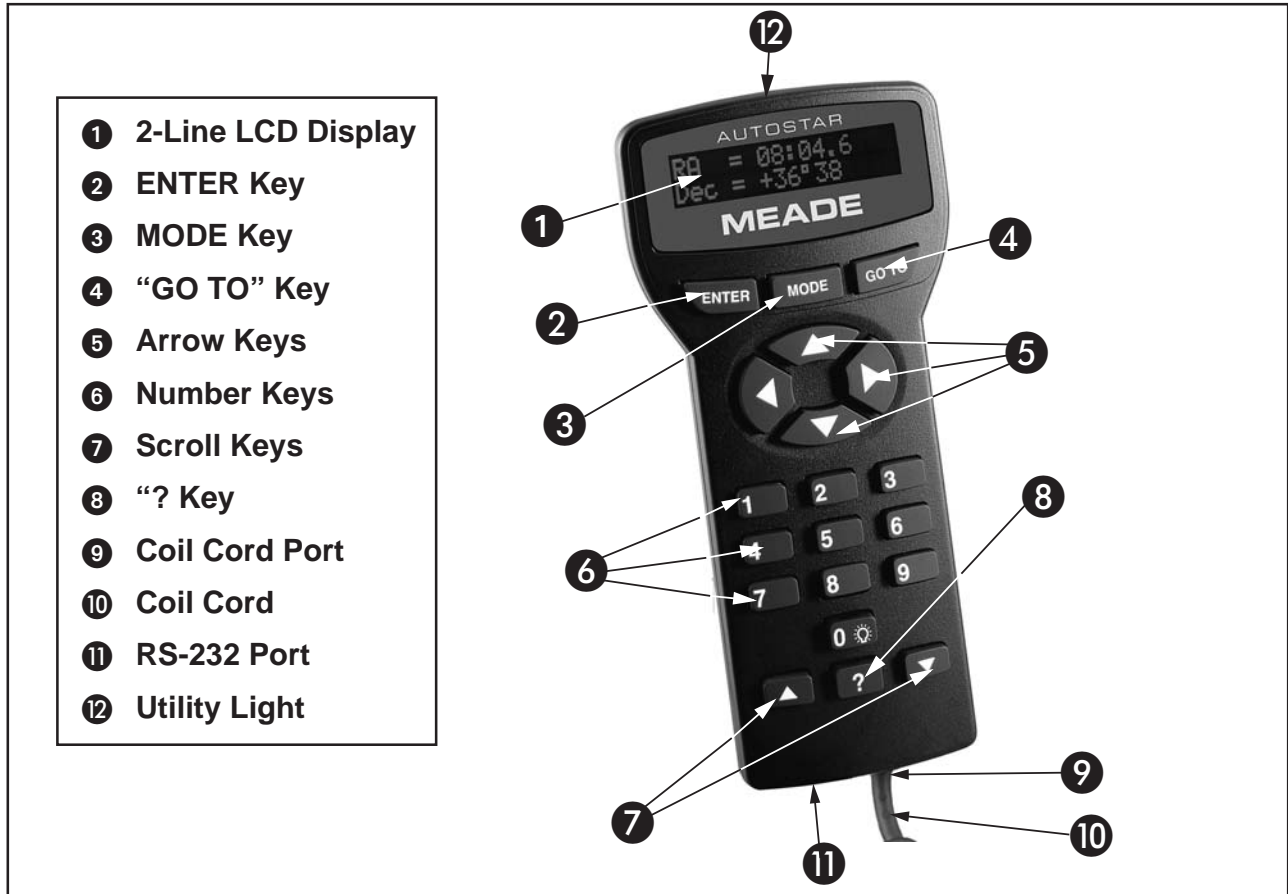
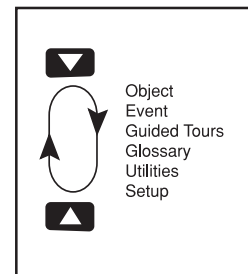

Figure 5: The AutoStar #497 Handbox
Figure 10: Menu set in loop
- A. Handbox (HBX) Port: Plug the AutoStar coil cord (Pg 19, Fig. 5, 10) into this port.
- D. Auxiliary (AUX) Port (2): Provides connection for Meade accessories. See OPTIONAL ACCESSORIES, page 16.
If MODE is pressed and held for two seconds or more, information about the telescope's status displays. When the status displays, press one of the Scroll keys (Pg. 19, Fig. 5, 7) to display the following information:
- 9 **Coil Cord Port:** Plug one end of the AutoStar coil cord into this port (pg. 19, Fig. 5, 9) located at the bottom of the AutoStar handbook.
3. The Arrow keys are now activated. Press the Arrow keys (Pg. 19, Fig. 5, 5) to slew (move)
4. Press a Number key (Pg. 19, Fig. 5, 6) to change the telescope's slew speed. See Slew Speeds, on pg 20 for more information.
It is important to understand that menu selections are set in a loop (Fig. 10). This means that pressing the Scroll Down key (Pg. 19, Fig. 5, 7) cycles down through all the available options within a given category, then returns to the first option. The Scroll Up key (Pg. 19, Fig. 5, 7) cycles up through the options in the opposite order. Note that this capability is a quick way to get to an option that is near the bottom of the list. The following example demonstrates this capability.